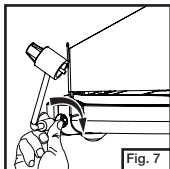

Fig. 7
- Push and screw regulator into stove hand tight. (Fig. 7)